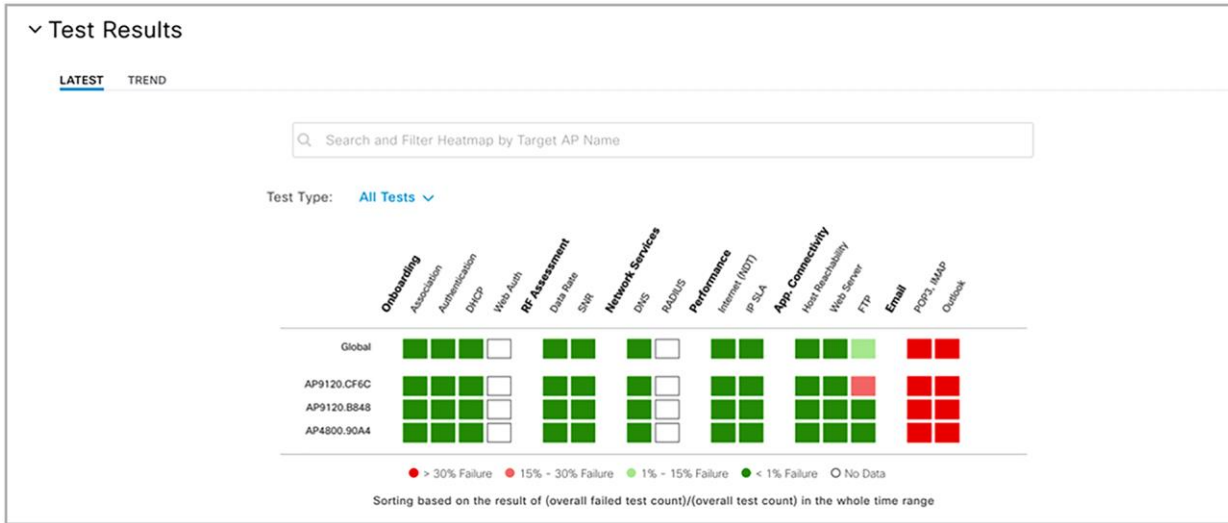

Figure 101.
1. Scroll down on the Sensor 360 page to view the test results heatmap, which is categorized by AP (Figure 101).